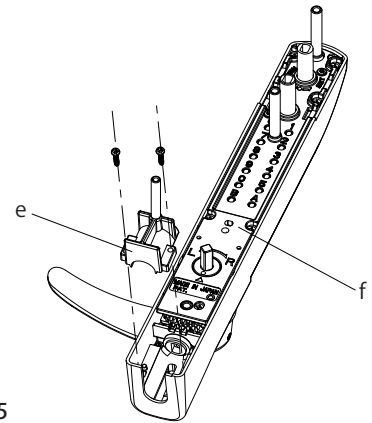

Fig. 5
1. Remove the retaining part (e) at the bottom of the main unit and the two screws. (Fig. 5)